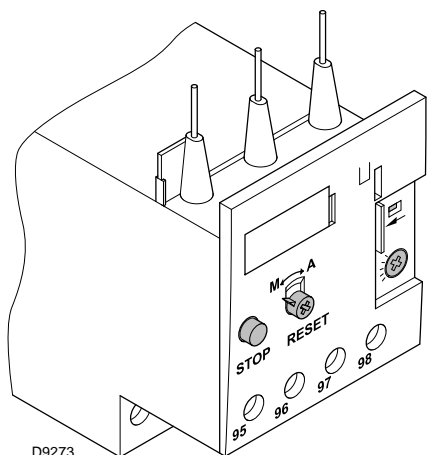

Fig. 17
The electro-mechanical thermal relay (Fig. 17) is used to avoid damage to the motor owing to a strong increase in absorption or the lack of a phase.
- To reset, in the case of an intervention of the thermal relay, press the button “RESET” (Fig. 17).
- The button “STOP” (Fig. 17) opens the NC (95-96) contact and stops the motor.